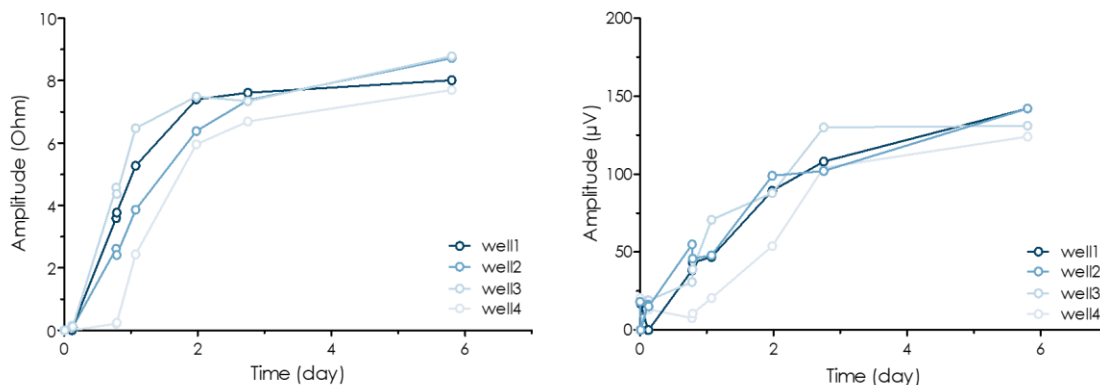

Figure 1. Cardiosight®-S cardiomyocytes form functional monolayers as recorded on CardioExcyte 96.
6. We recommend performing experiments from day 5 post plating when the cardiomyocytes have reached a stable baseline (Figure 1).